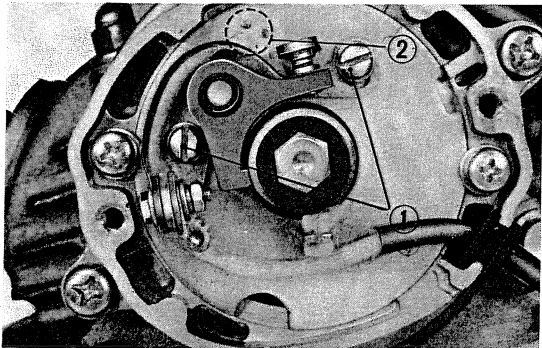

Fig. 5 ① Breaker arm retaining screws ② Adjusting position
- 3) If it is necessary to make adjustment, loosen the breaker arm retaining screws, insert a screwdriver in the adjusting screw slot, and pry to adjust to the above value. Retighten the screw securely after setting is made. (Fig. 5)